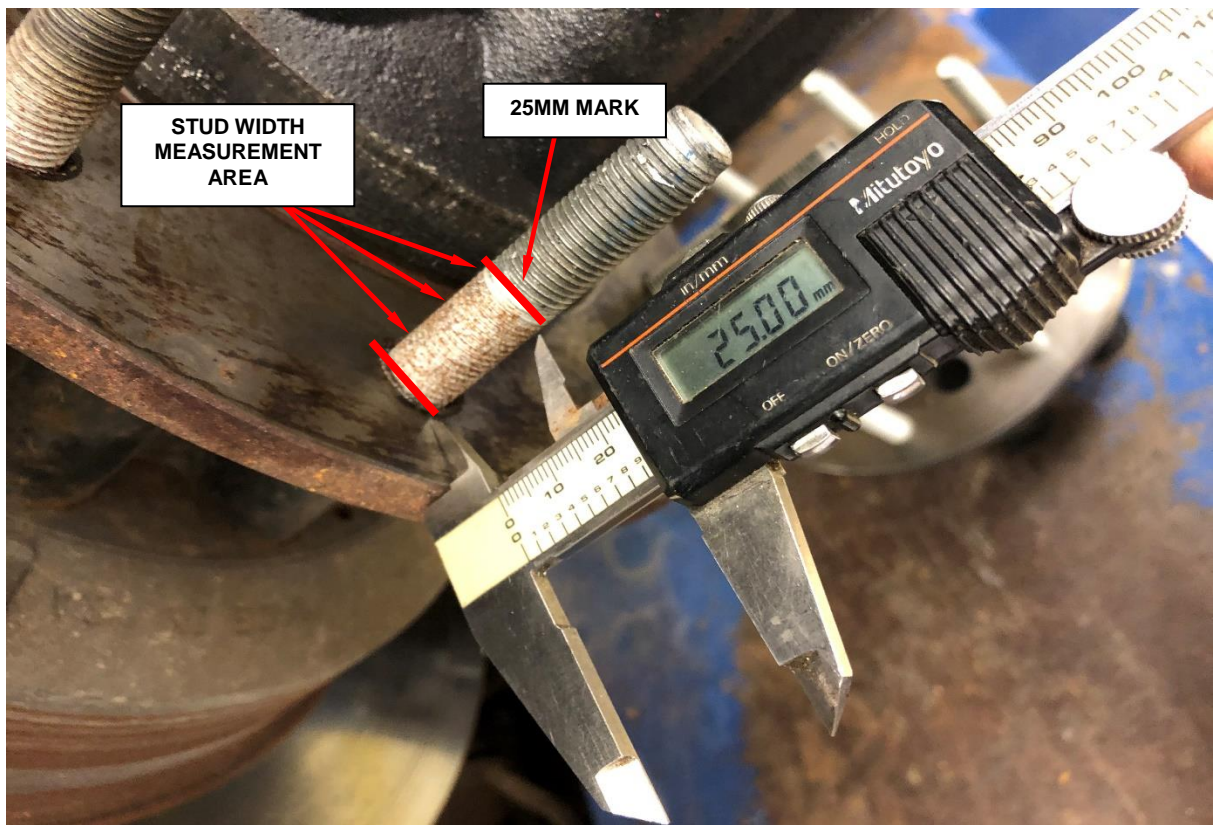
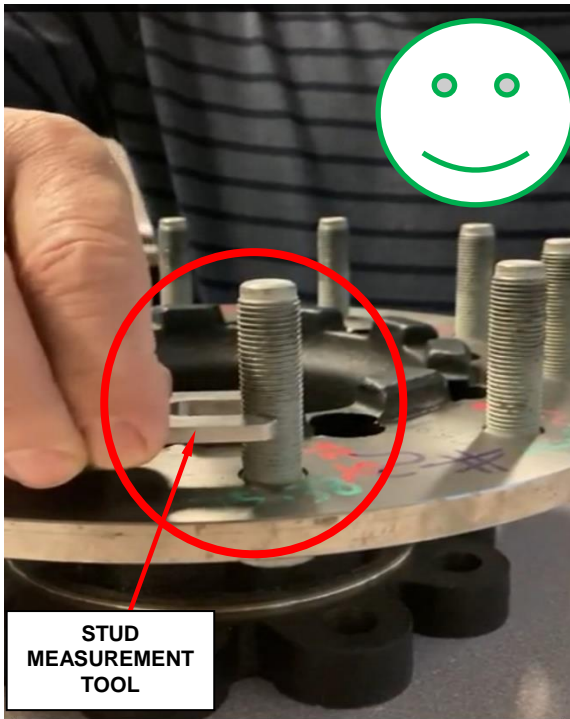

Figure 2 Stud Measurement Area
FIGURE 3 – Good Stud
3. Measure approximately 25mm from the axle flange surface up the stud and place a mark (Figure 3). If no measurement tool is available, use the color of the stud to identify the measurement area (Figure 2).
4. Attempt to insert the stud measurement tool in the following locations of the stud at different angles: (Figure 2).
5. Did the measurement tool insert fully into ANY of the wheel studs at all three locations? See sample illustrations below (Figure 3 and Figure 4).